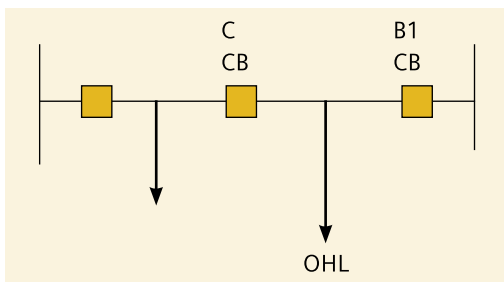

Fig. 1
The switchgear arrangement shown below in Figure 1 is commonly referred to as the breaker and a half or (1 1/2 CB) scheme. When an overhead line (OHL) is terminated in such a manner the co-ordination of the automatic re-closure (AR) demands special attention as two circuit breakers (CB) must be re-closed at the line end in question. In this document a typical AR solution with 7VK6 Breaker Management Relay is given.